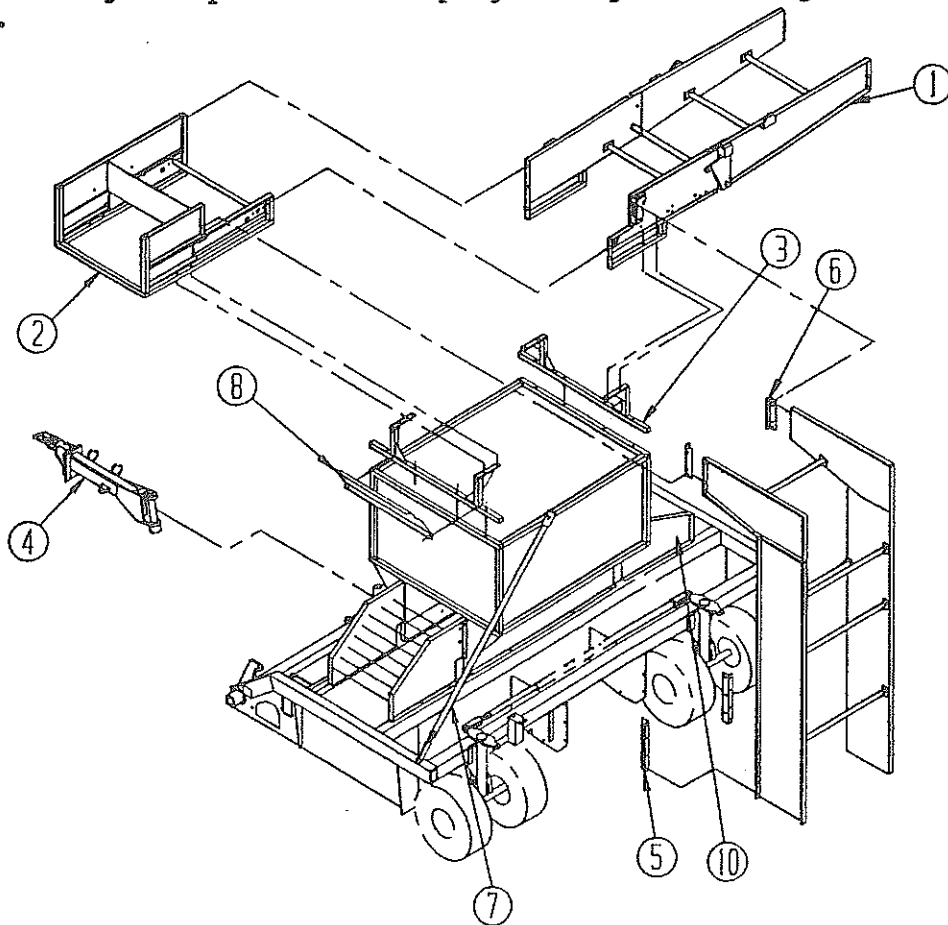

FIGURE 2
Step 8: Bolt support angles (Figure 2, Item #5) onto bottom squeeze chain elevator panels with (8) 1/2 x 1 1/2 hex cap screws, hex nuts, lock washers and flat washers. Leave the nuts loose.
Step 9: With the use of a fork lift or other suitable means of lifting, lift squeeze chain elevator into place and attach with (6) 5/8 x 1 3/4 hex cap screws, (4) 1/2 x 1 1/2 hex cap screws, hex nuts, lock washers, flat washers, and (2) attaching angles. (Figure 2, Item #6). Now tighten all bolts and nuts securely.
Step 10: Wrap lower end of squeeze chain elevator draper chain around step rollers per diagram Figure (4) or decal on the side elevator panel. Install all hugger springs per Figure (5). Add or remove links to hold the 3" minimum dimension shown in Figure (4) after springs are installed.
Step 11: Install elevator support rod assembly (Figure 2, Item #7) on left hand side of frame using (2) 5/8 x 1 3/4 hex cap screws, hex nuts and lock washers.
Step 12: Install reservoir shield (Figure 2, Item #8) using (2) 3/8 x 2 1/2 hex cap screws, hex nuts, lock washers and flat washers.
Step 13: Reinstall right hand chute panel which has been removed and attached to opposite panel for shipping purposes. Install (6) right hand chute rods (Figure 2, Item #10) included in box of parts.
Step 14: Install all lifter wheels and wheel spacers using (16) 7/16 x 2 3/4 hex cap screws, hex nuts, lock washers, and (2) pair spacers per row. (See page 21 for additional information on pinch point width adjustment.) For rock cushion option installation, see instructions inclosed with option.
Step 15: Install lifter wheel scrapers using (2) 1/2 x 5 hex cap screws, hex nuts and lock washers per row.